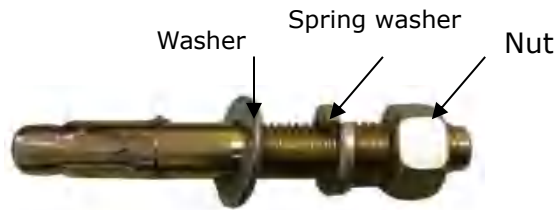

Fig. 31
1. Prepare the anchor bolts (See Fig. 31).